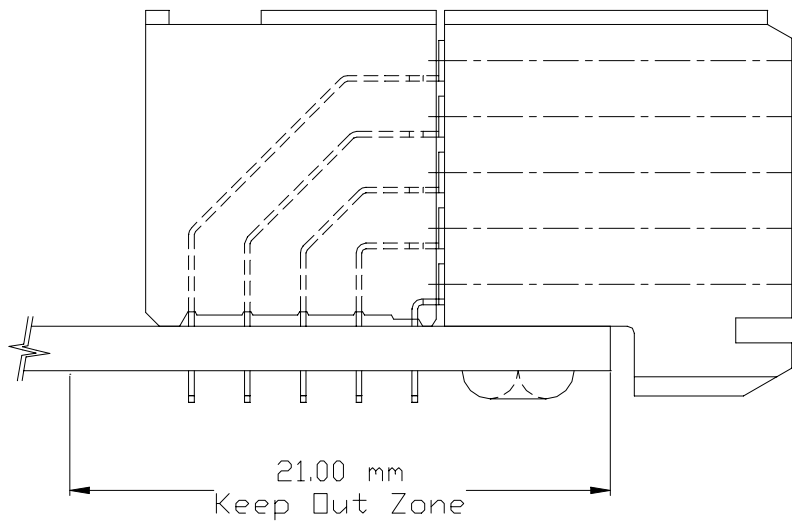

Figure 8 - Keep out zone for components around receptacles.
- To enable the application of receptacles, there is a recommended keep out zone for components. Refer to Figure 8 for the recommended keep out zone.